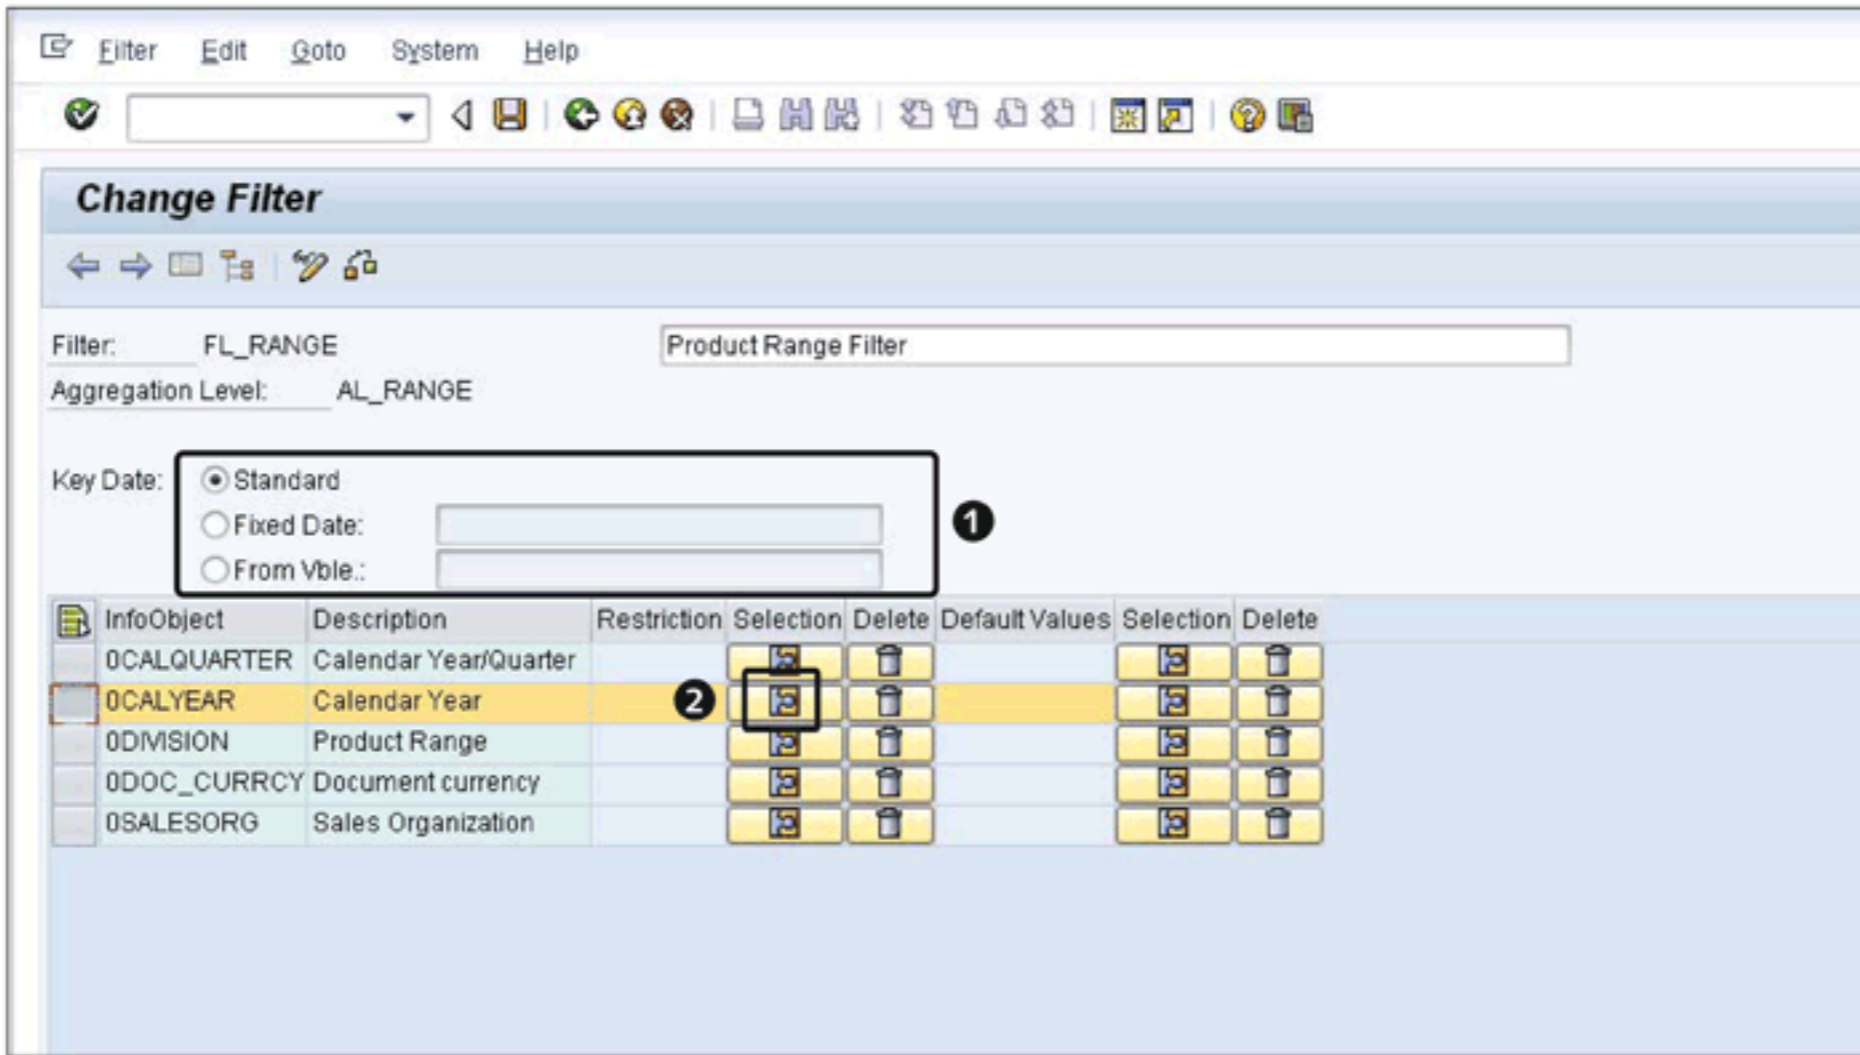
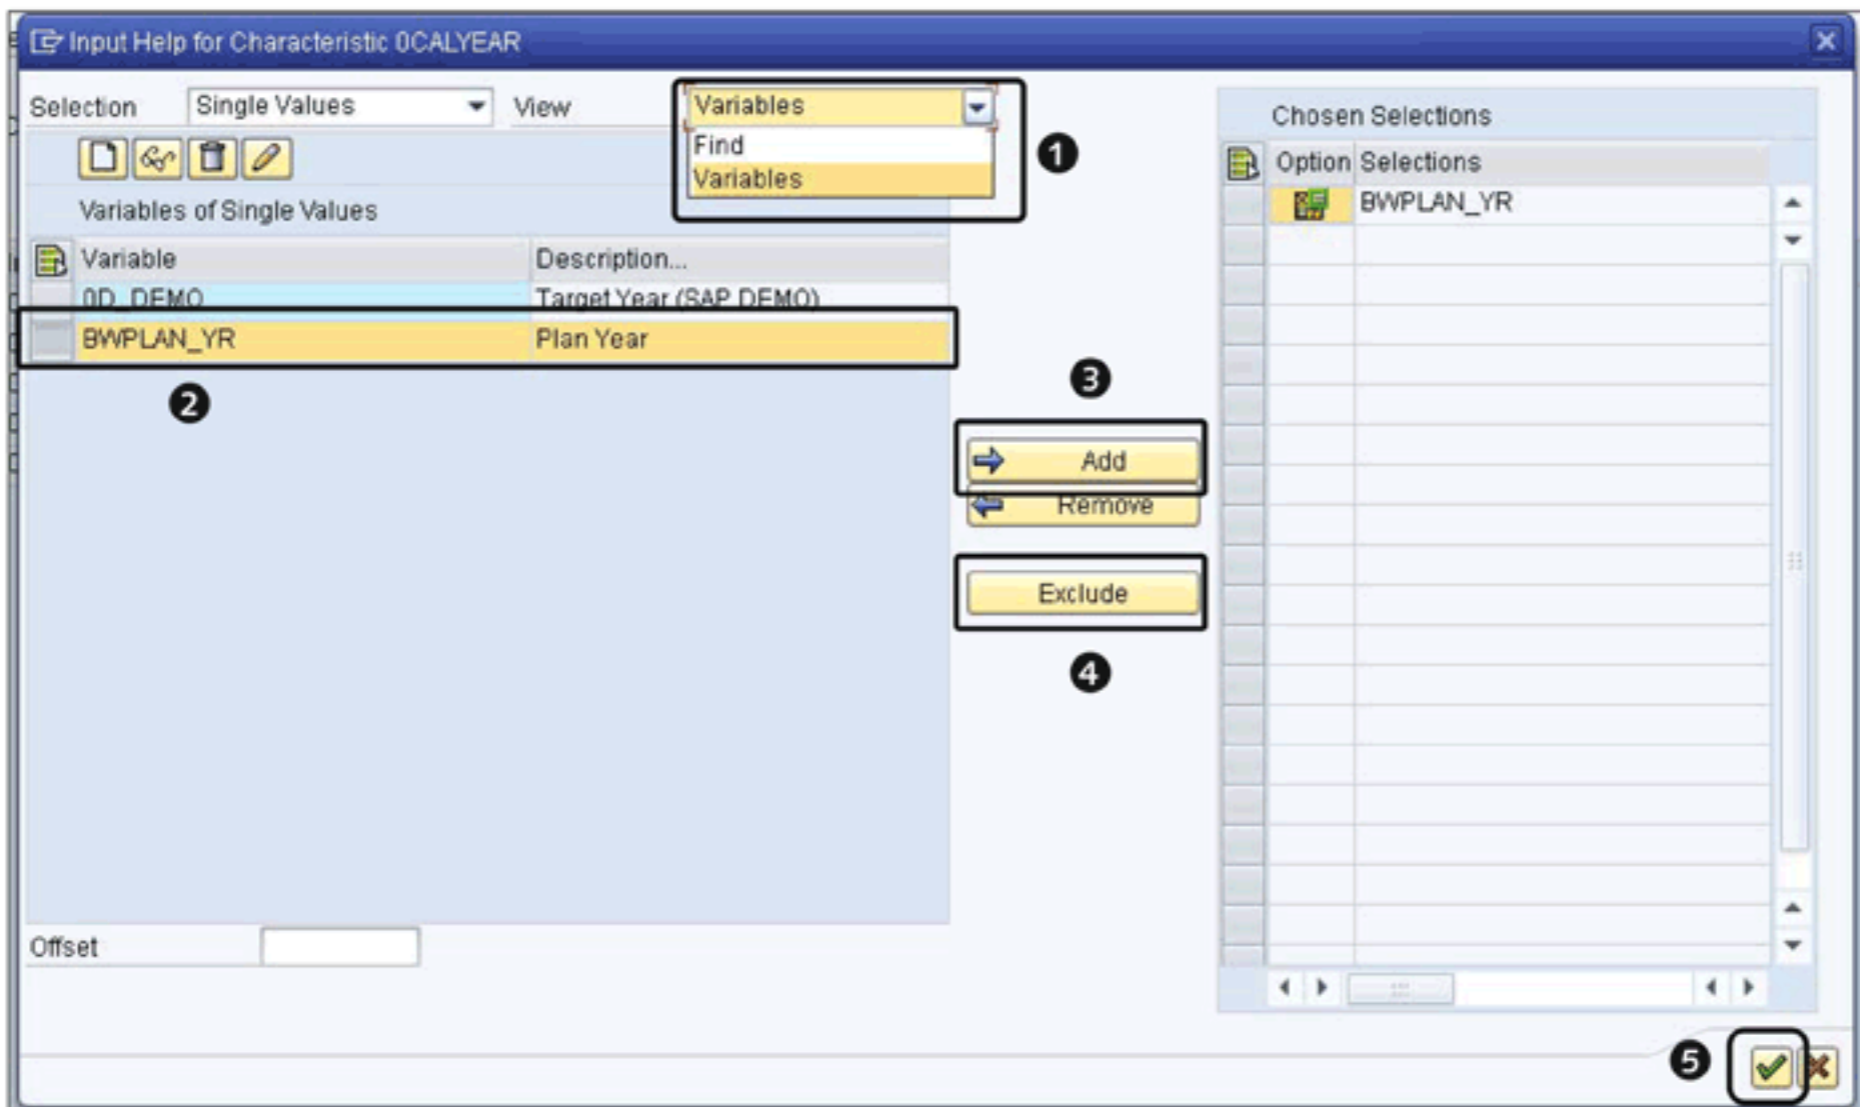
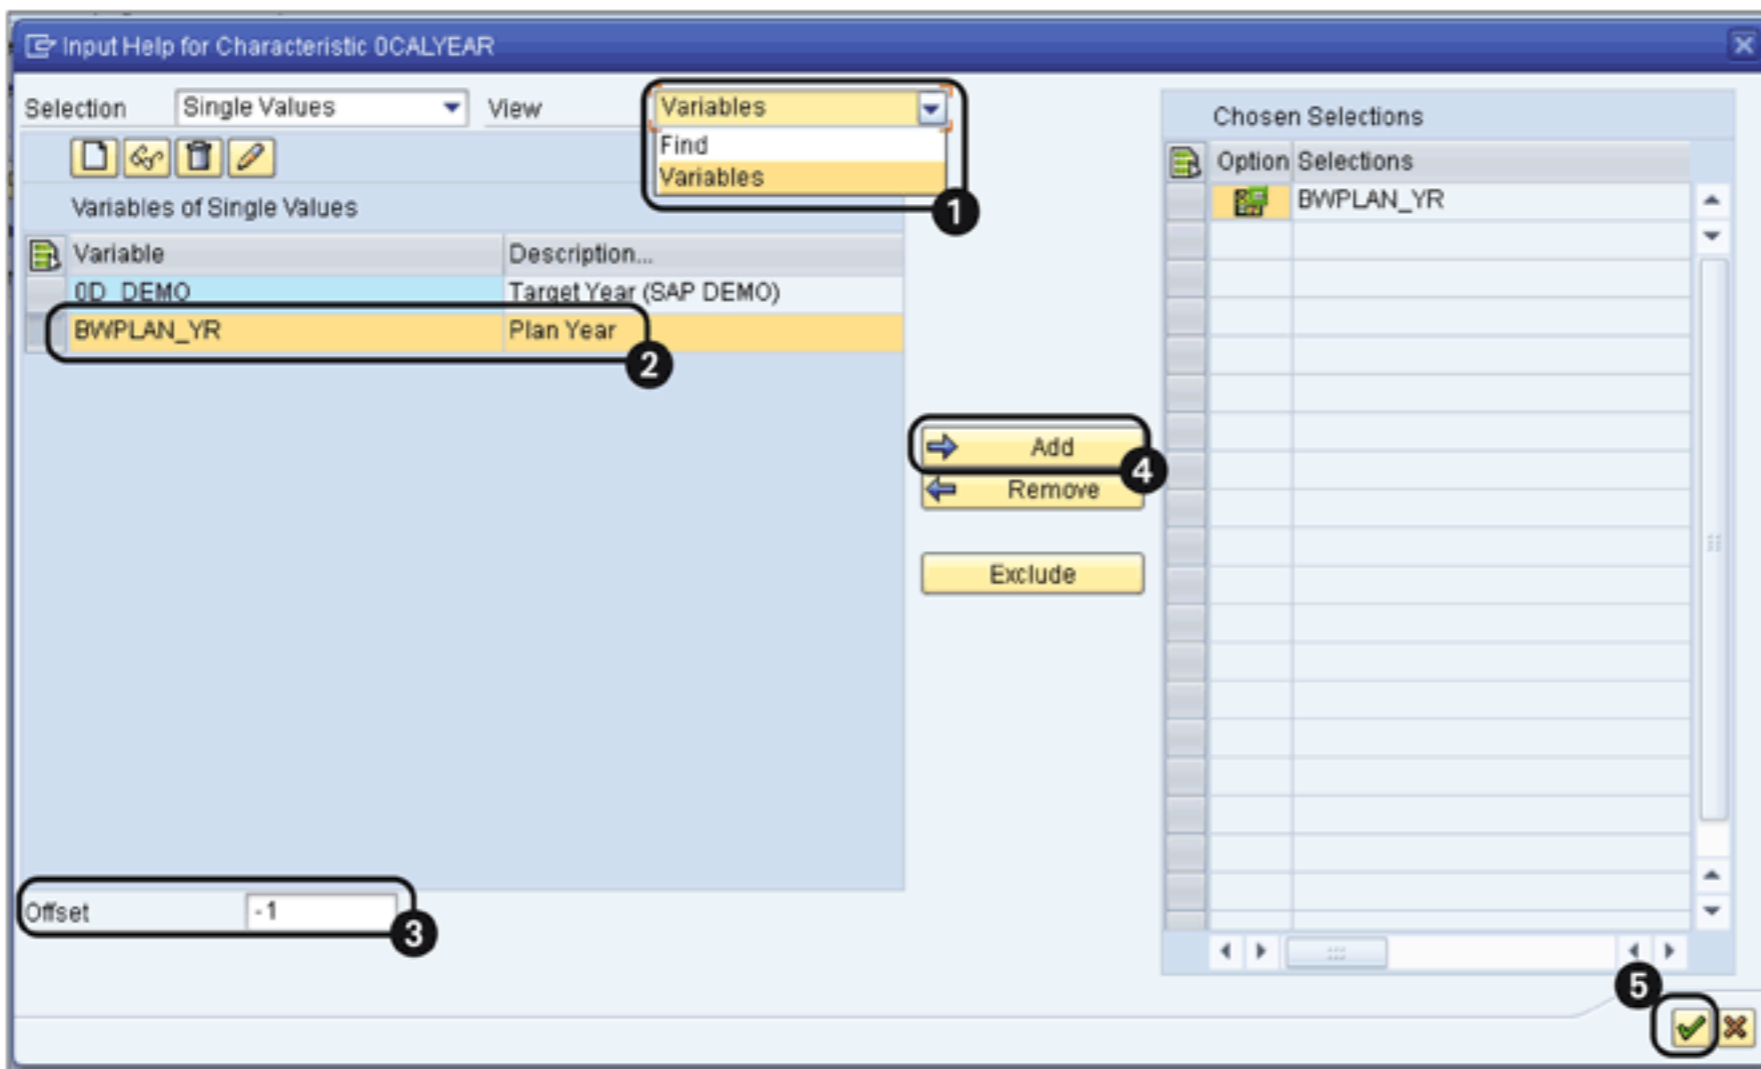

Figure 12.28 Change Filter Screen
Figure 12.29 Input Help for Filter Characteristic
Figure 12.39 Use of Variable in Copy Planning Function
The next screen for filter definition is displayed as shown in Figure 12.28. You can maintain the filter here. If you want to apply a selection that includes time-dependent master data, then you can also define a key date that will be used to derive time-dependent values for the filter. The key date can be specified as a fixed date or can be derived using a variable (❶ of Figure 12.28).
The next step is to restrict the characteristics in the filter. Call INPUT HELP to define the characteristic restrictions by clicking on the button shown in ❷ of Figure 12.28. This opens a pop-up window (Figure 12.29).
Select the VARIABLES view from the dropdown list (1 of Figure 12.29), and the list of variables built on the characteristic is displayed. Select the variable with which you want to restrict the characteristic (2). Click on ADD to add the selected vari-
In this case (Figure 12.29), the characteristic 0CALYEAR is restricted with a user entry variable, BWPLAN_YR, that has a single mandatory entry. The use of variables in filters increases the flexibility of the planning application because the filters—and the data for the planning—are determined at runtime.
As mentioned earlier in this section, you must copy the values from the previous year based on the variable value entered by the user. The variable used here is BWPLAN_YR (refer to Figure 12.29 earlier in this chapter). We use the same variable to derive the FROM values for the COPY function. As shown in ❶ of Figure 12.39, select the VARIABLES view from the dropdown list, and select PLAN YEAR (❷).